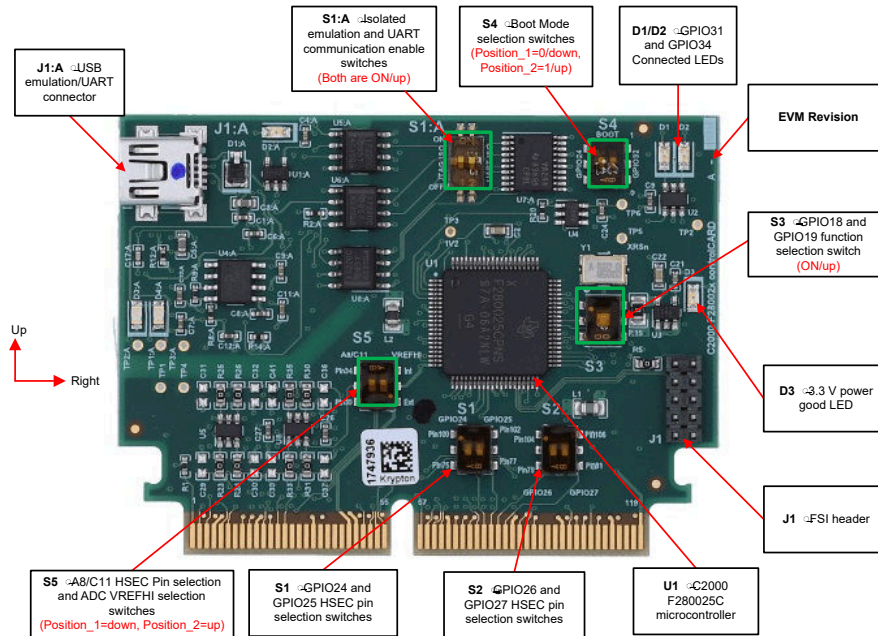

Figure 2-2. F28002x controlCARD and Switches Setting
- Make sure that switches on **TMDSCNCD280025C** are set as described below shown in **Figure 2-2**.